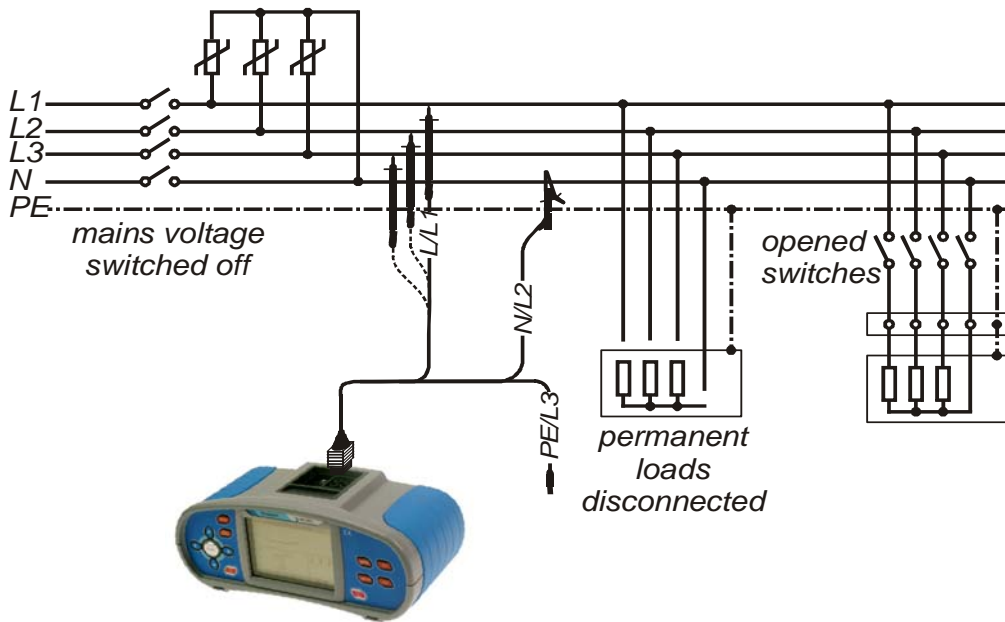

Figure 5.64: Connection of universal test cable for varistor test
- ❑ **Connect** test cable to the instrument and tested item (see figure 5.64).